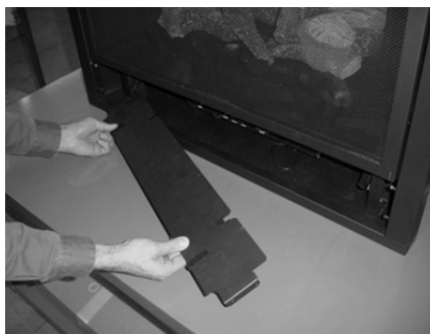

Figure 3
- 1 Remove the concealment cover (see Figure 3).
- 21 Clip any excess wiring into the wire clips on the back of the control panel (see Figure 35). Use the included wire ties, if necessary, to keep all wiring from contacting any hot or moving components. Re-attach the control panel (see Figure 36) and shroud (see Figure 3).